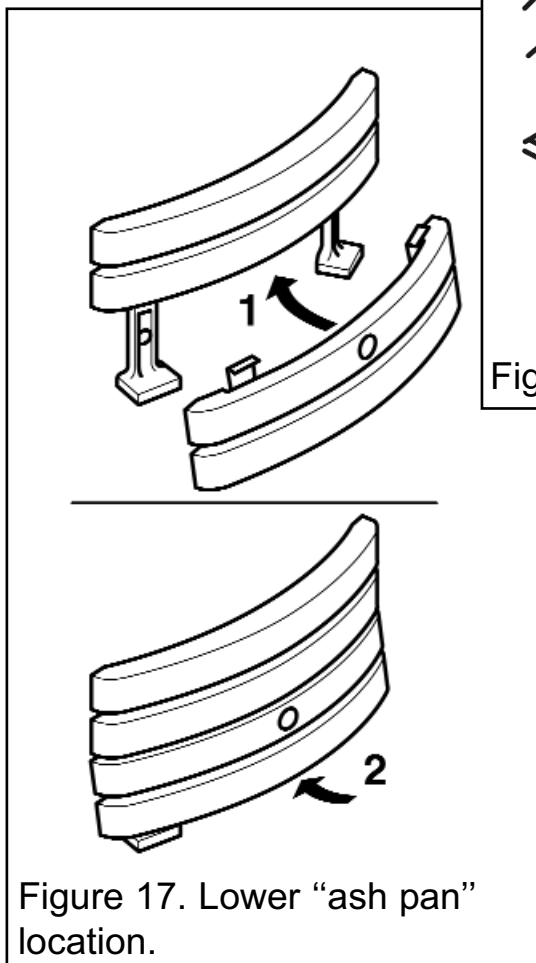

Figure 17. Lower "ash pan" location.
4. The lower "ash pan" casting should be located as in figure 17.